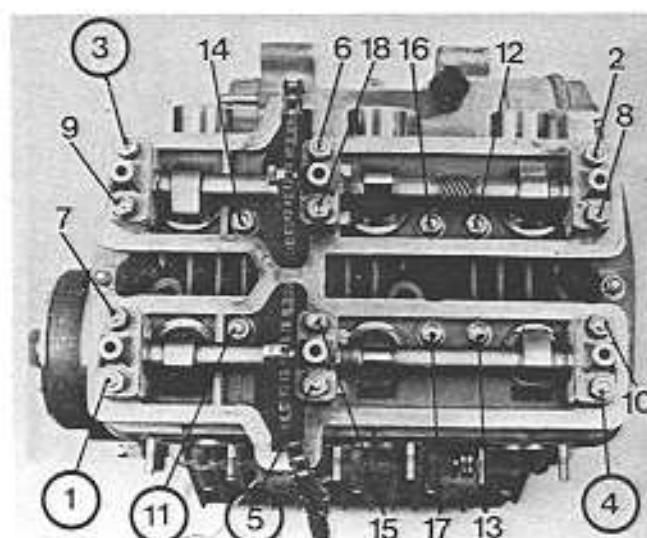

Fig. 12
- Following the order shown in the figure 12, gradually loosen the camshaft bearing nuts and the cylinder head securing nuts.